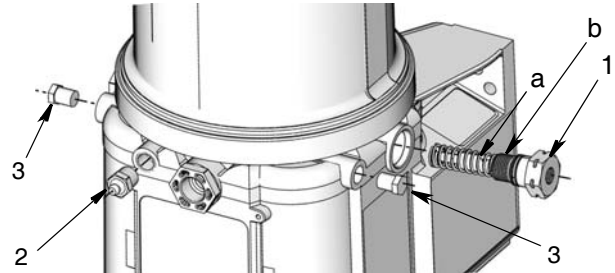

FIG. 2
4. Use a wrench to loosen pump element (1) and completely remove pump element (FIG. 2).
5. Remove zerk fitting (2) and plugs (3) as shown in FIG. 2.
1. Examine new pump element (1). Make sure spring (a), retainer (b) and piston are installed (FIG. 2).
4. Apply thread sealant to stainless steel zerk fitting (2) and install zerk fitting as shown in FIG. 2. Torque to 50 in.-lbs (5.6 N•m).
5. Apply thread sealant to stainless steel plugs (3) and install plugs as shown in FIG. 2. Torque to 50 in.-lbs (5.6 N•m).